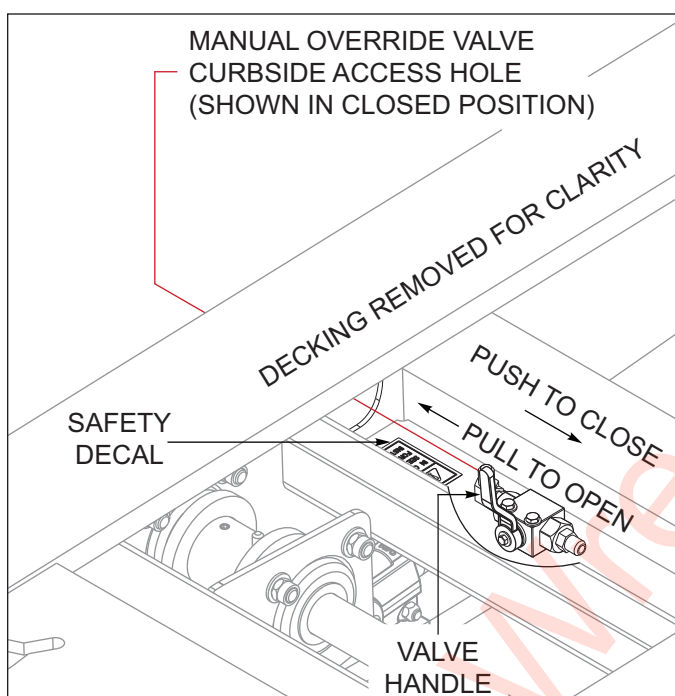

Figure 5-24: Manual Override Valve
1. ENSURE the manual override valve handle is pulled fully down to the open position, See Figure 5-24
6. Close the manual override valve by pushing the handle to the fully up position, See Figure 5-24
4. Zero out hydraulic pressure in the hoses by pulling the Manual Override Valve Handle to the open position, ***See Figure 5-24 on Page 5-42.***